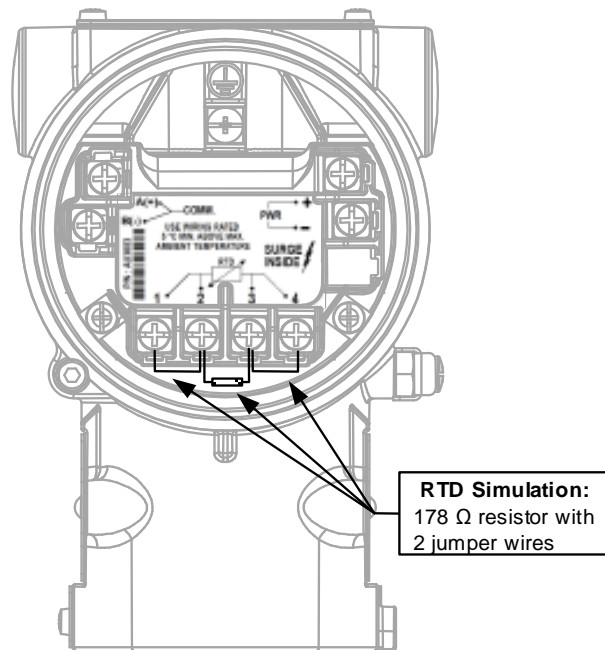

Figure 26: RTD Simulation wiring
- a. Using a small phillips screwdriver, loosen the terminal 2 and 3 screws (Figure 26) and remove resistor.